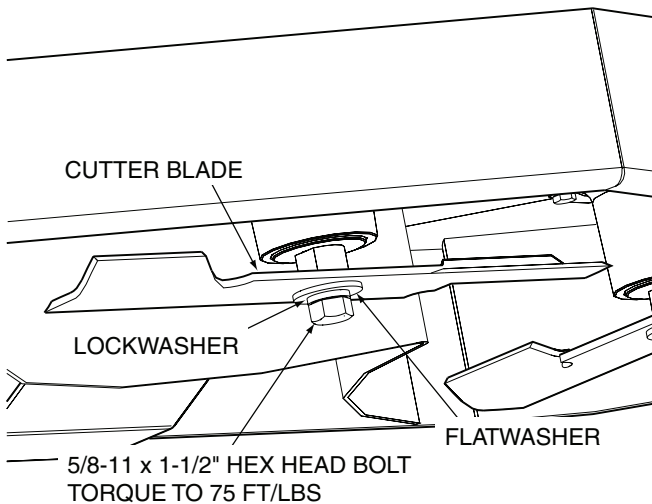

Figure 7-9. Blade Replacement
3. Secure the cutter blades to prevent them from rotating, (use the optional Blade Buddy tool P/N 9212, to assist in securing the cutter blades), remove the blade attaching bolt. Remove the cutter blade, bolt, lockwasher and flatwasher from the spindle shaft. See Figure 7-9.
- Install the cutter blade onto the cutter spindle shaft. Secure the blades from rotating and torque to 75 ft/lbs. See Figure 7-9.